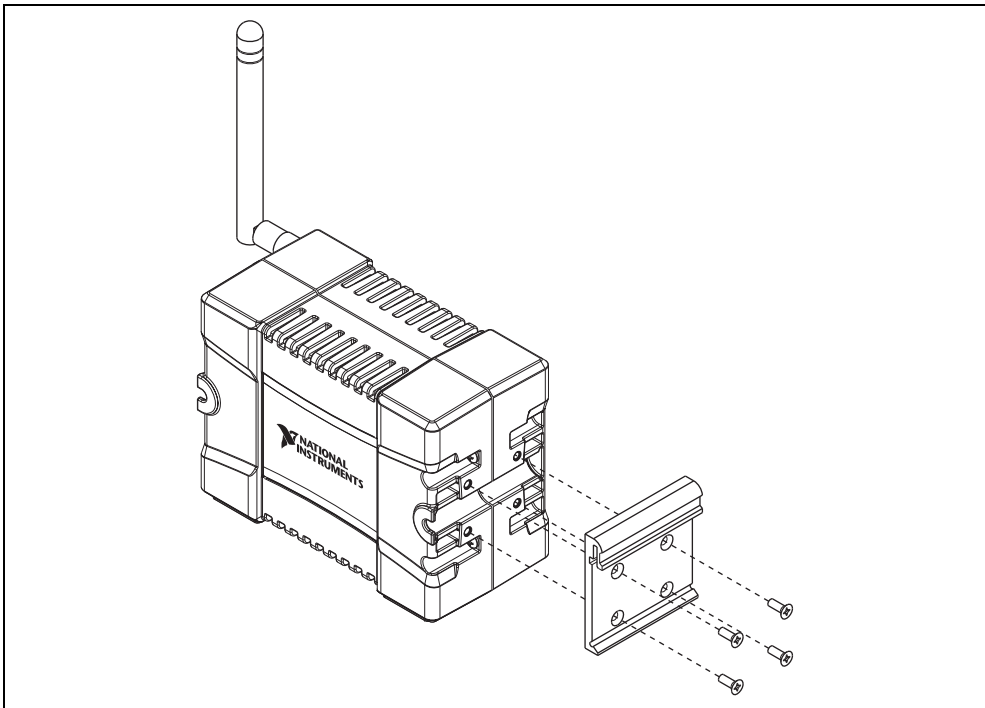

Figure 7. NI WSN-9791 Device DIN Rail Installation
2. Make sure the DIN rail kit is installed as shown in Figure 7, with the larger lip of the DIN rail positioned up.